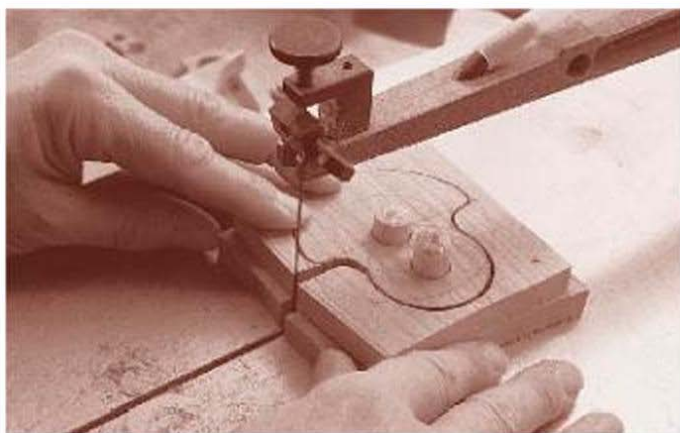

FIGURE 4-11
- 4** With the holes in place, begin fretting out the crank shape on the scroll saw. Work at a steady, even pace, all the while feeding the wood into the blade so the line of cut is a little to the waste side of the drawn line (Fig 4-11).